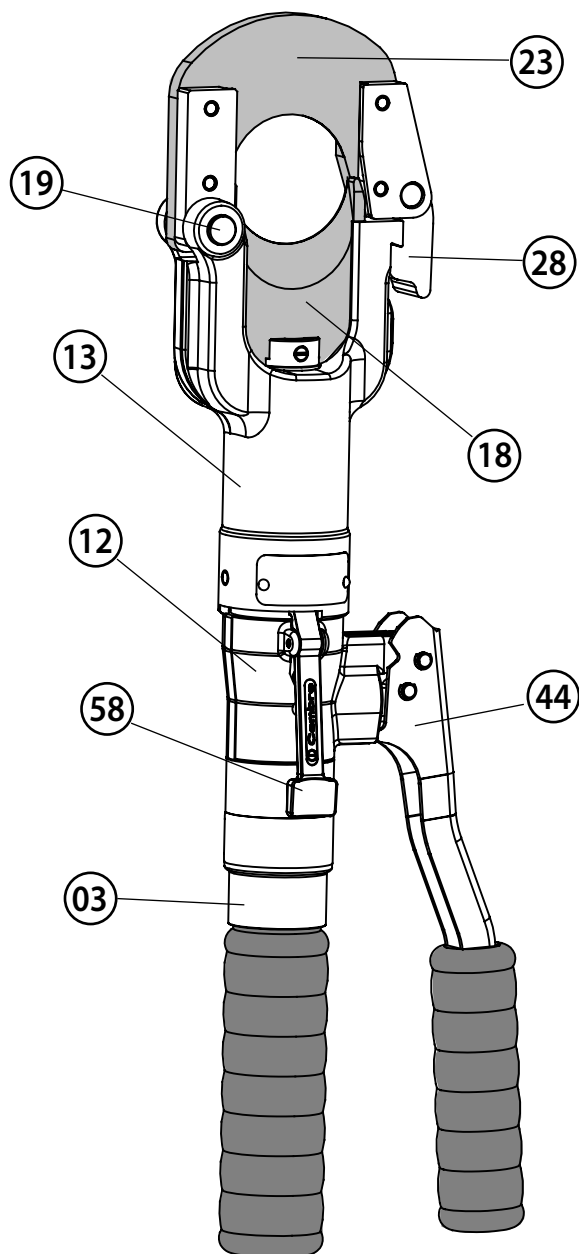

FIG. 1 OVERALL VIEW - VUE D'ENSEMBLE - GESAMTANSICHT - VISTA DEL CONJUNTO - VISTA D'ASSIEME
2. INSTRUCTIONS FOR USE (Ref. to Fig. 1)